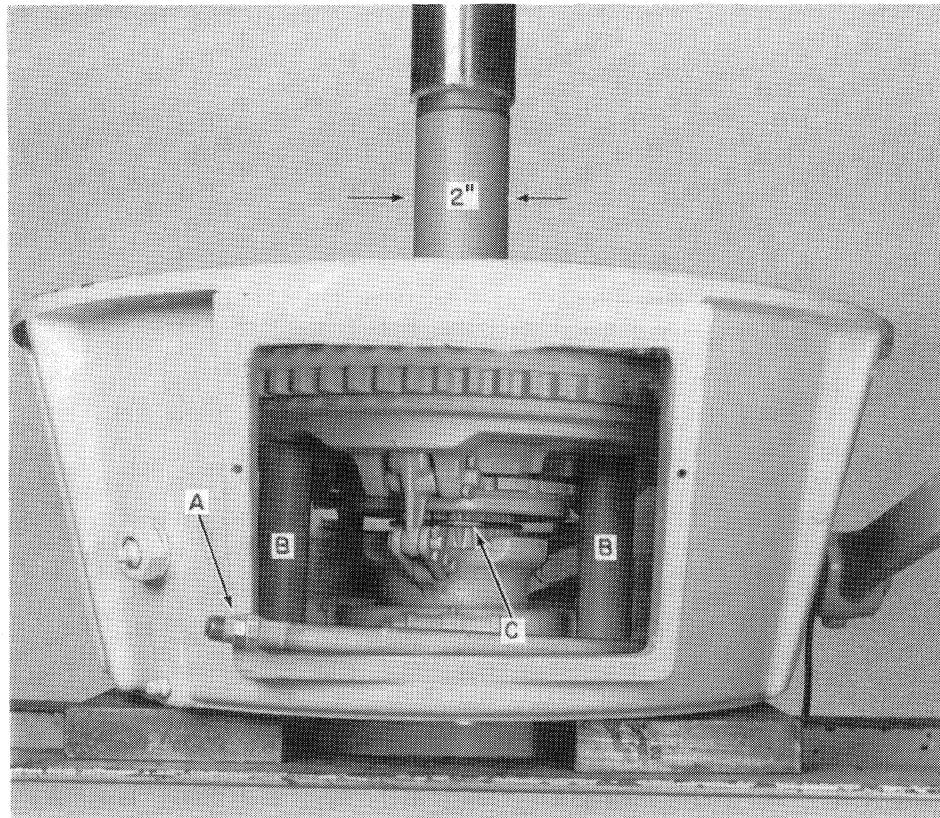

FIGURE 2-8
4. Disconnect the grease line, A, Figure 2-8.
5. Position the assembly in a press as shown in Figure 2-8. Support the clutch assembly with two supports, $1\frac{1}{4}$ " x $4\frac{1}{2}$ " (3 cm x 11 cm), as shown at B, Figure 2-8.
6. Use a shaft, 2" x 6" (5 cm x 15 cm) to press the shaft out. Press the shaft $\frac{1}{2}$ " (12 mm) and then remove the split rings at C, Figure 2-8.